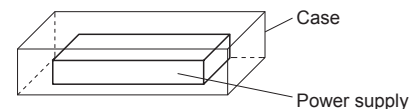

Fig.3.2 Installation example
■There is a possibility that it is not possible to cool enough when the power supply is used by the sealing up space as showing in Figure 3.2.